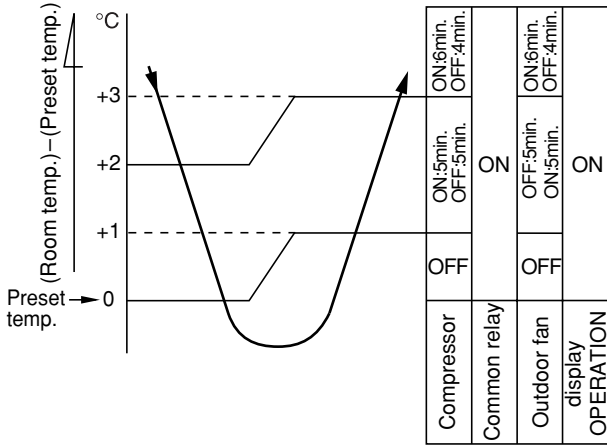

Fig. 7-2-4
- (1) The compressor, outdoor fan and operation display on the remote control are controlled as shown in Fig. 7-2-4.